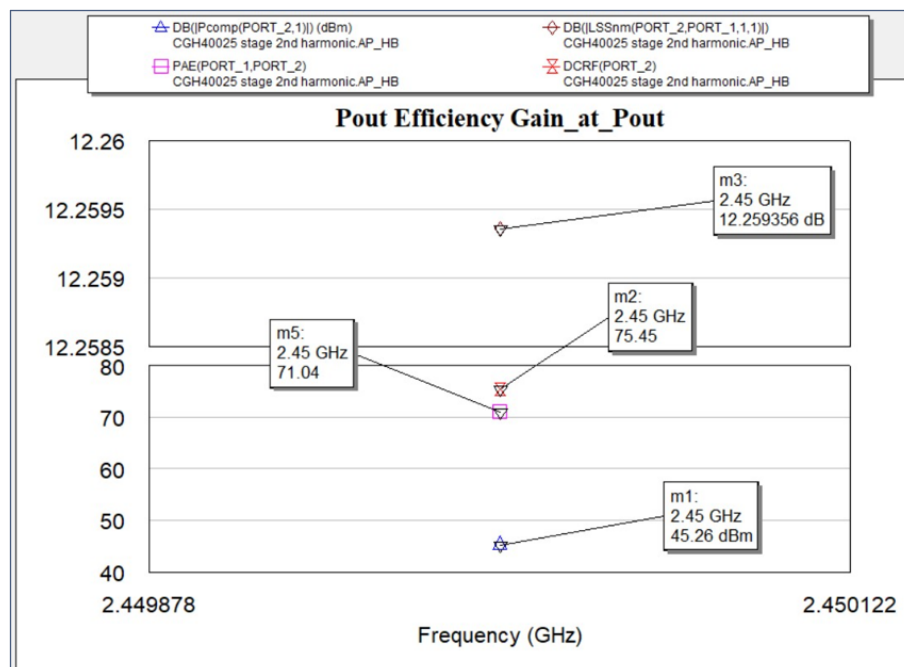

Figure 18
14. With the harmonics impedances selected in the middle of the dense sections tune the intrinsic fundamental impedance for maximum Pout. This greatly improves the efficiency also, as shown in Figure 18.